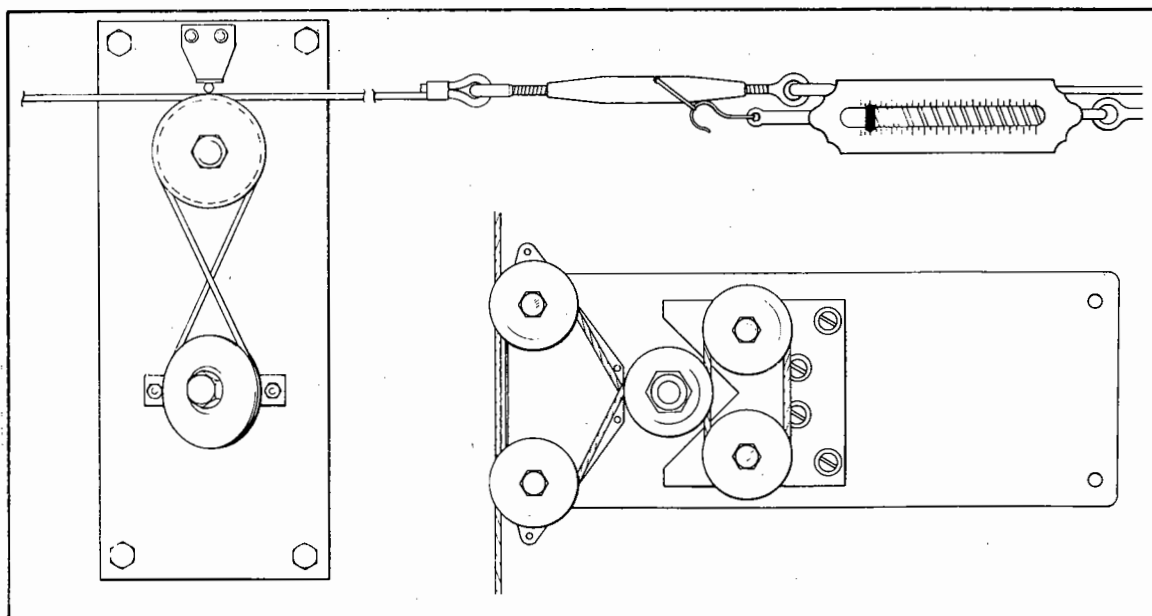

Figure 16-1. M. E. T. Series Trim Servo Clutch Adjustment
- a. Attach a 0-50 lb. spring scale to the trim tab cable which is attached to the trim servo. (Refer to Figure 16-1.)